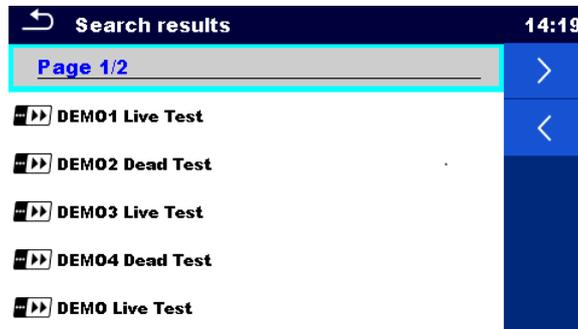
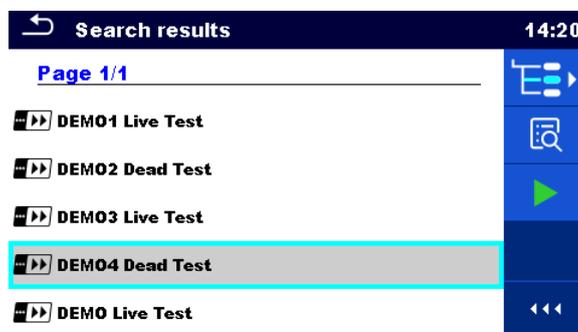

Figure 7.1: Search results screen Page view
Figure 7.2: Search results screen with Auto Sequence® selected
| ④ |  | Searches through the active Auto Sequence® group according to the set filters. The results are shown in the Search results screen presented on Figure 7.1 and Figure 7.2 . |